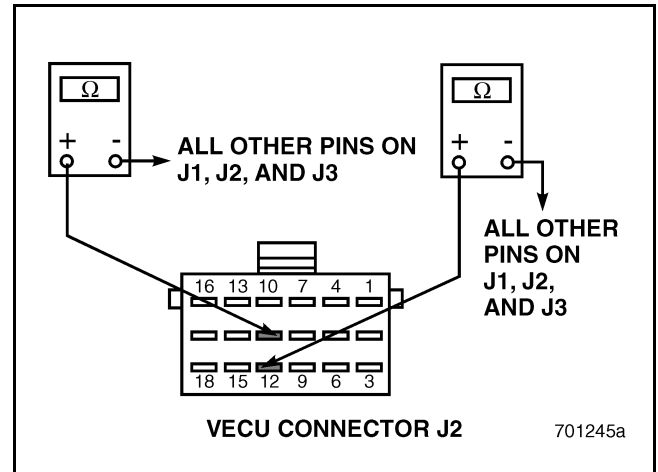

Figure 445
4. Check for continuity between VECU connector J2 pins 11 and 12 versus all other pins on VECU connectors J1, J2 and J3 (see Figure 445).